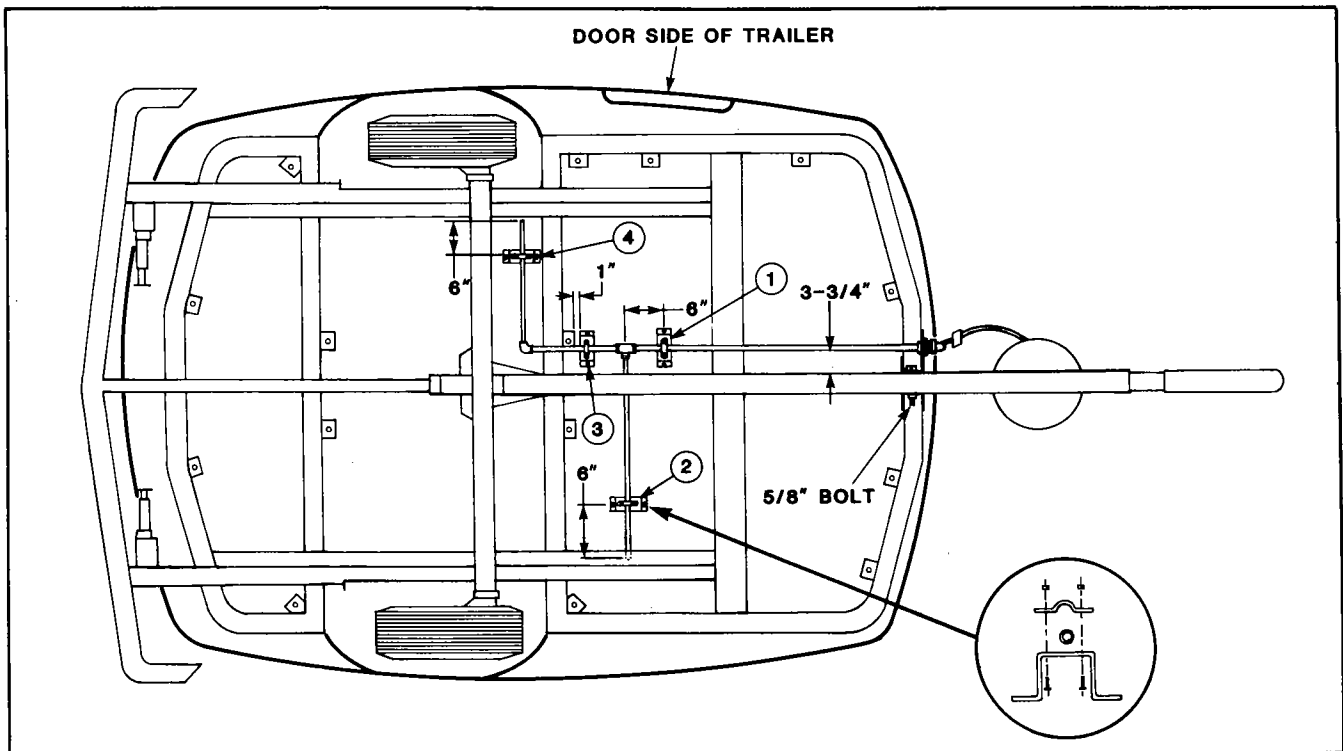

Figure 3. Standoff Brackets
3. Assemble stand-off brackets and pipe brackets on piping according to the directions and measurements in figure 3.
22. Position stand-off bracket #3 one inch from frame mount (figure 3). Using bracket as a template, drill two $\frac{1}{4}$ -inch mounting holes up through floor. Push two special elevator bolts down through floor and bracket and secure bracket with washers and $\frac{1}{4}$ -20 lock-nuts.
23. Position remaining stand-off brackets according to dimensions in figure 3, adjusting system so that the flare connections are directly below the 2-inch holes, and secure brackets as in step #21.